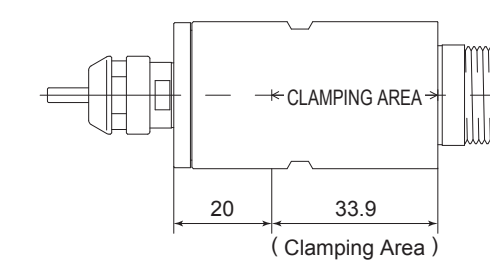

Fig. 6
- When mounting a spindle, refer to the Clamping Area etched on the spindle. (Fig. 6)